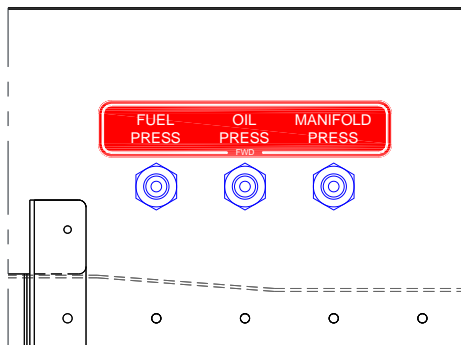

Figure 2: View looking at the three AN832-4D/J fittings on the forward face of the firewall.
3. Disconnect the flexible fluid lines, for the Fuel Pressure, Oil Pressure and Manifold Pressure gauges, from the three respective fittings on the forward face of the firewall identified in Figure 2. Cap the lines to prevent contamination and stow the lines in a safe location.